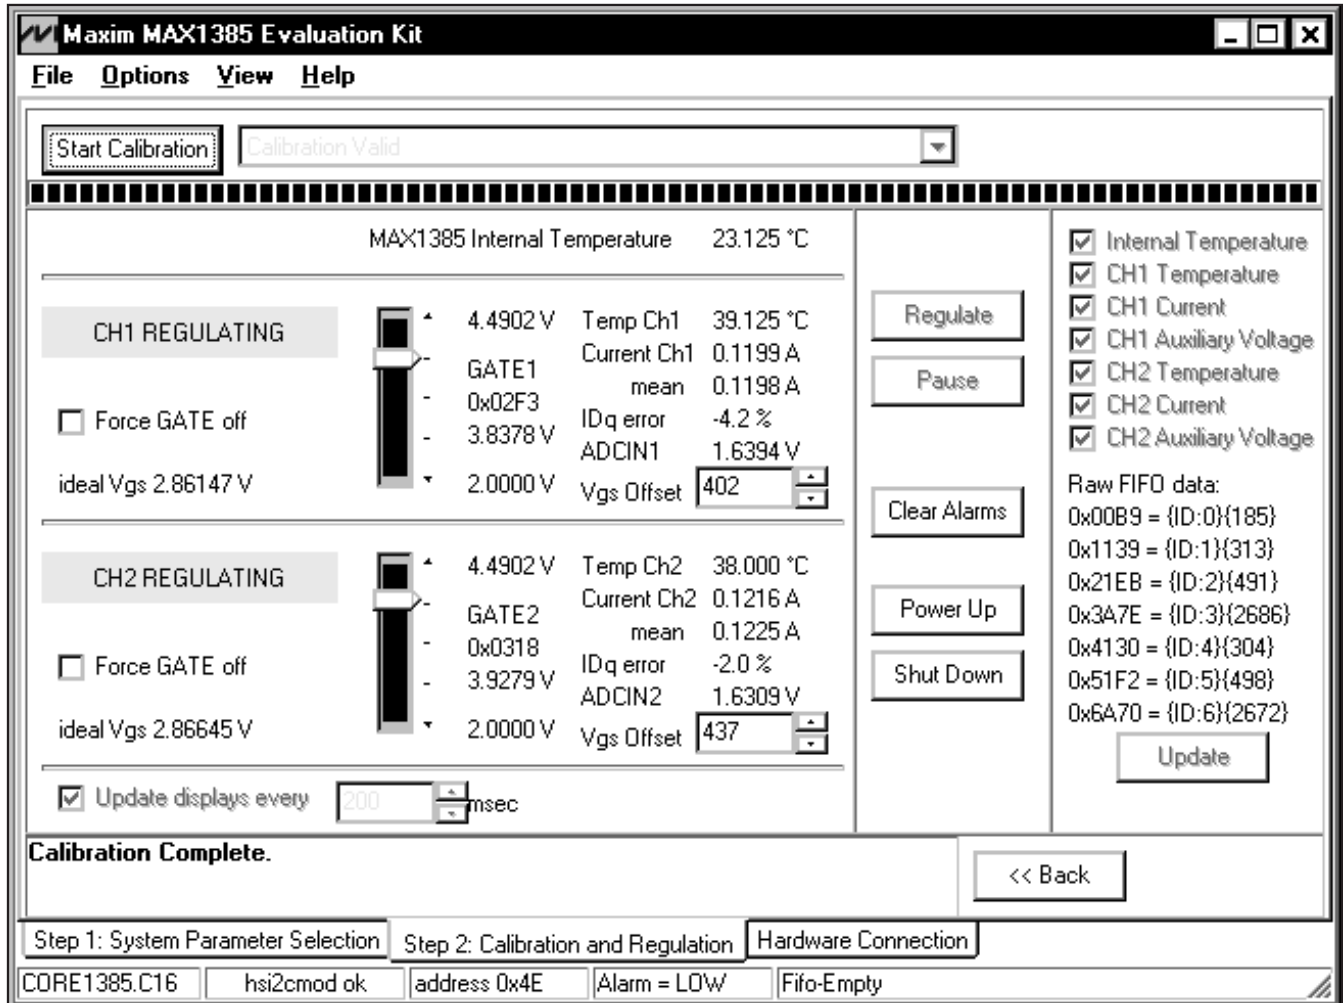

Figure 3. MAX1385 EV Kit Calibration and Regulation Window
- 10) Wait until the software enters **Open-Loop System Checkout** mode (Figure 3).
Once the μ C is loaded and the MAX1385 is initialized, **Open-Loop System Checkout** begins. Operate the **GATE1/GATE2** sliders (Figure 3) while watching the current indicator to verify that the MAX1385 is connected to the target FETs. Once the gate control, temperature, and current-measurement connections have been verified, click the **Start Calibration** button.